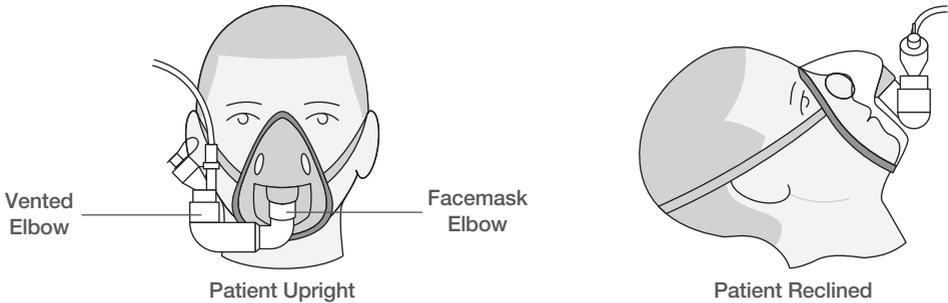
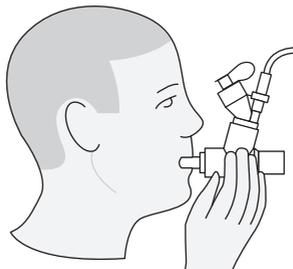
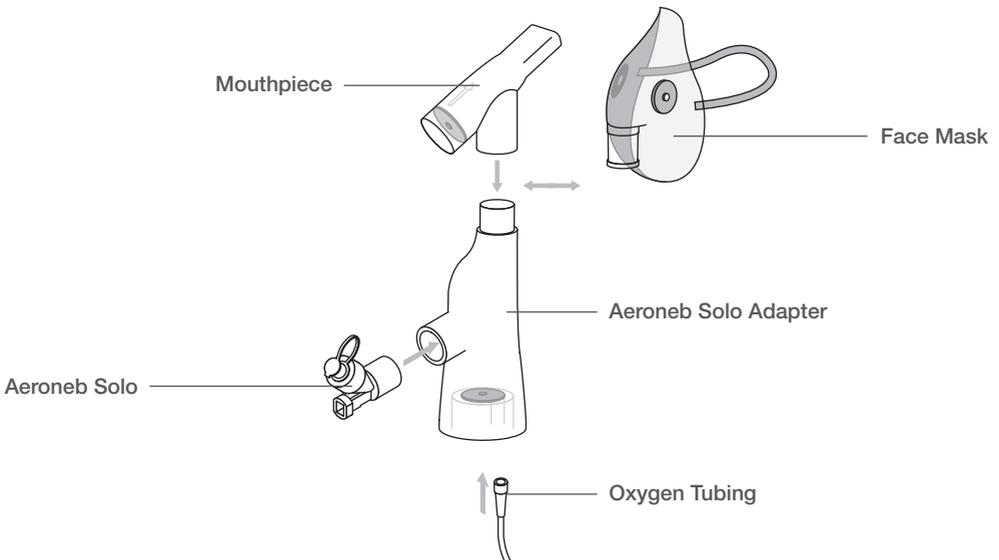

Figure 8. Connecting to a mask
Figure 9. Connecting to a mouthpiece
Figure 10. Assembly of Aeroneb Solo Adapter
Note: For use with other accessories, refer to Figure 8, Figure 9 and Figure 10.
2. Rotate the vented elbow to suit the position of the patient (Figure 8).
When using a mouthpiece, connect the nebulizer to the T-piece and then connect the T-piece to the mouthpiece by pushing the parts firmly together as shown in Figure 9.
Warning: To ensure correct nebulization, maintain the nebulizer in a vertical orientation (Figure 8 & Figure 9)
1. Insert Aeroneb Solo nebulizer firmly into Adapter in orientation shown in Figure 10.